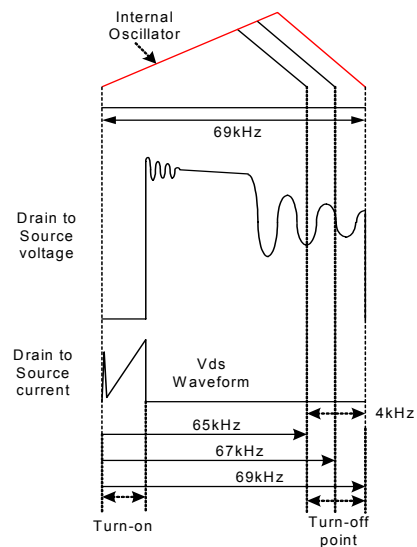

Figure 11. Frequency Modulation Waveform
**7. Frequency Modulation :** EMI reduction can be accomplished by modulating the switching frequency of a switched power supply. Frequency modulation can reduce EMI by spreading the energy over a wider frequency range than the band width measured by the EMI test equipment. The amount of EMI reduction is directly related to the depth of the reference frequency. As can be seen in Figure 11, the frequency changes from 65kHz to 69kHz in 4mS for the FSDM0265RN. Frequency modulation allows the use of a cost effective inductor instead of an AC input mode choke to satisfy the requirements of world wide EMI limits.